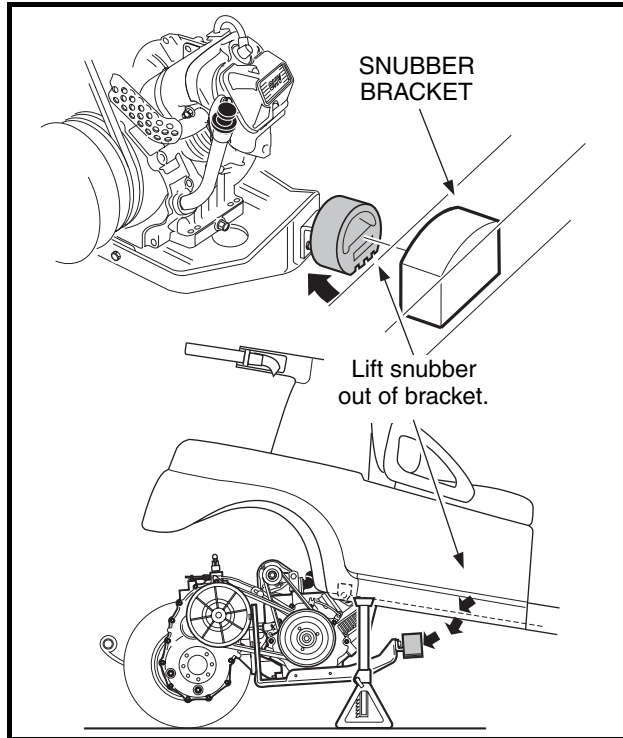

Figure 16-26 Snubber
13. Carefully lift the snubber out of the snubber bracket in the vehicle frame and lower it to the floor (**Figure 16-26, Page 16-13**). The powertrain should be completely disconnected from the vehicle and resting on the floor.